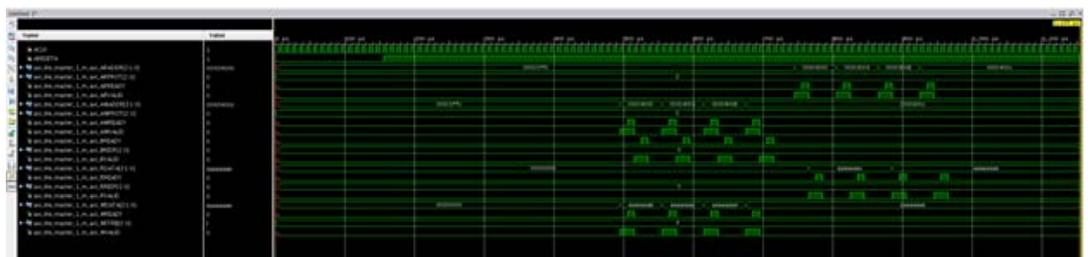

Figure 41: AXI4-Lite IP Integrator System Simulation
8. Select **View > Zoom Fit**. The resulting waveform is shown in Figure 41. Four writes can be seen, followed by four reads.